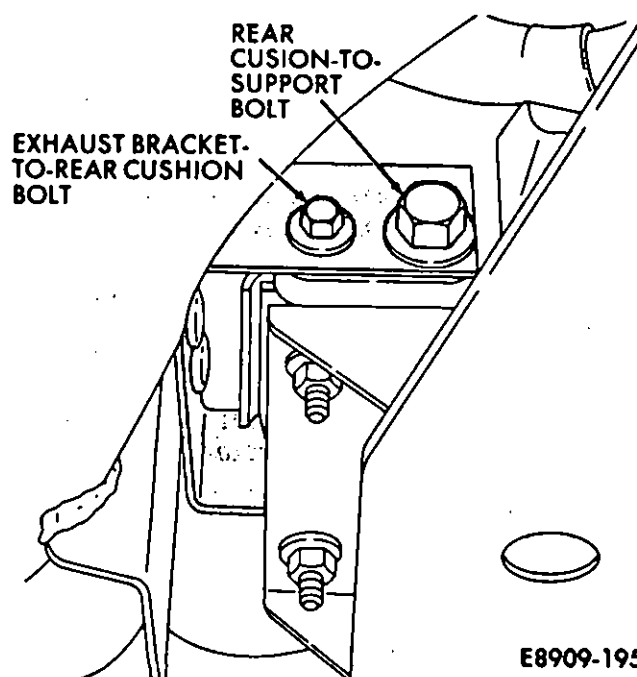

Fig. 8—Attach Exhaust Bracket to Rear Cushion
- (4) Install, but do not tighten the exhaust bracket bolts.
- (5) Tighten the rear cushion-to-support bracket bolt and nut to 67 N·m (49 ft-lbs) torque.
- (6) Tighten the bolts that attach the exhaust bracket to the rear cushion to 31 N·m (23 ft-lbs) torque (Fig. 8).
- (7) Install the bolts and nuts that attach the crossmember to the studs on the engine cradle. Tighten the nuts to 60 N·m (44 ft-lbs) torque.
- (8) Remove the jack stand from the transaxle.
- (9) Install the underbody splash shield. Tighten the shield bolts to 28 N·m (21 ft-lbs) torque.
- (10) Lower the vehicle.
- (11) Connect the battery negative cable.